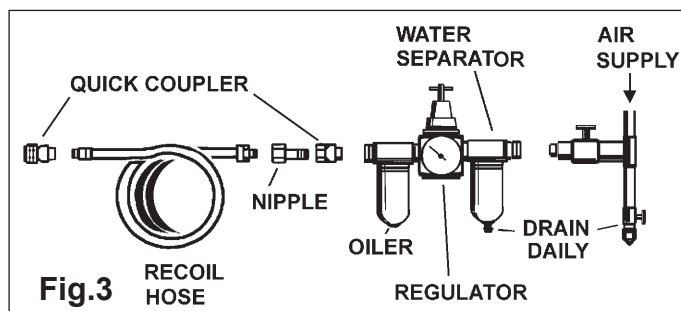

Fig.3
4.1.2 Connect to an air supply as recommended in Fig.3. The air supply must be capable of 108 to 123psi and 9cfm.